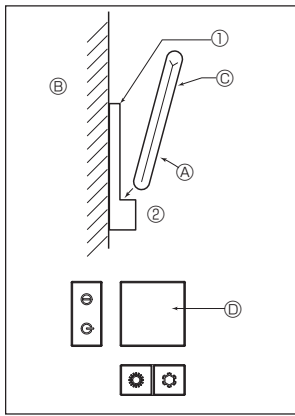
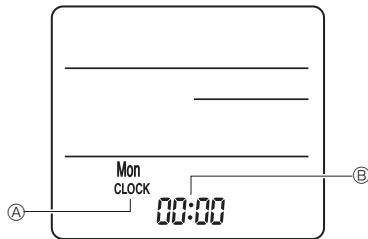

Fig. 7-7
Fig. 7-8
2) Installation method (Fig. 7-7)
- ① Attach the remote controller holder to the desired location using 2 tapping screws.
- ② Place the lower end of the controller into the holder.
3) Setting (Clock setting) (Fig. 7-8)
- ① Insert batteries or press the **CLOCK** button with something sharp. [CLOCK] ▲ and [:] ▲ blinks.
- ② Press the **RESET** button with something sharp.
- ③ Press the **▲** button to set the time. Press the **DAY** button to set the Day.
- ④ Press the **CLOCK** button with something sharp at the end. [CLOCK] and [:] lighted.